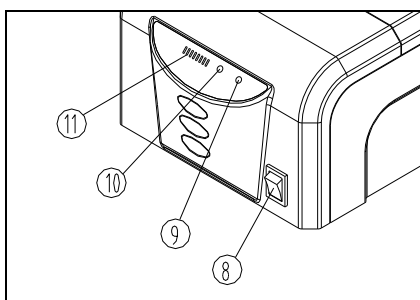

Fig 38
(2) Turn on the switch (8) on the battery pack to start power supplying. The indicator (9) is green in normal while the indicator (10) is orange (the indicator (10) becomes green when the pack is fully charged.) At the same time, the last bulb of the light strip (11) is red while other bulbs are green. When it is low battery, the indicator (9) is orange while the indicator (10) is orange. At the same time, only the last bulb of the light strip (11) is red. (See Fig.38)